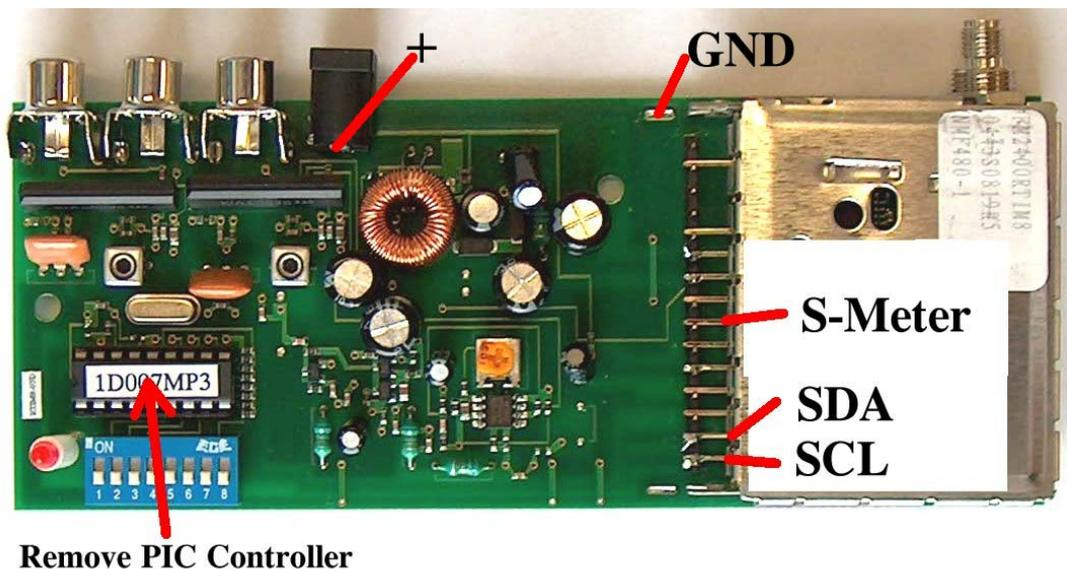

Figure 26: DFM2400RTIM Board.
1. Remove the PIC Controller as indicated in Figure 26.
2. Solder the **BLACK** wire from the LCD Board labeled **GND** to the **GND** of the RTIM Board, indicated in Figure 26.
3. Solder the **RED** wire from the LCD Board labeled **POWER SUPPLY** Receiver to the + indicated in Figure 26.
4. Solder the **BLUE** wire from the LCD Board labeled **SDA** Receiver to the **SDA** indicated in Figure 26.
5. Solder the **YELLOW** wire from the LCD Board labeled **SCL** Receiver to the **SCL** indicated in Figure 26.
6. Solder the **GREEN** wire from the LCD Board labeled **S-Meter** Receiver to the **S-Meter** indicated in Figure 26.